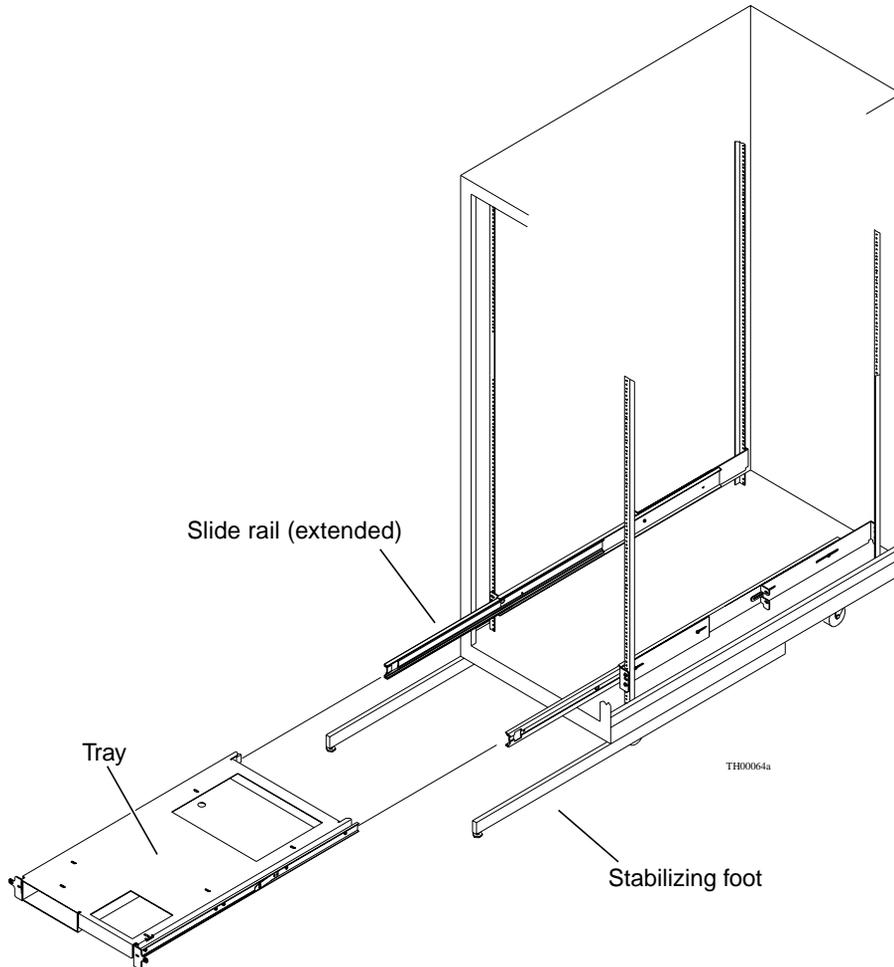

FIGURE 2-7 Installing the Tray
3. Slide the tray onto the slide rails until the tray snaps into place (FIGURE 2-7). Ensure that the tray engages the rail ball bearings properly.